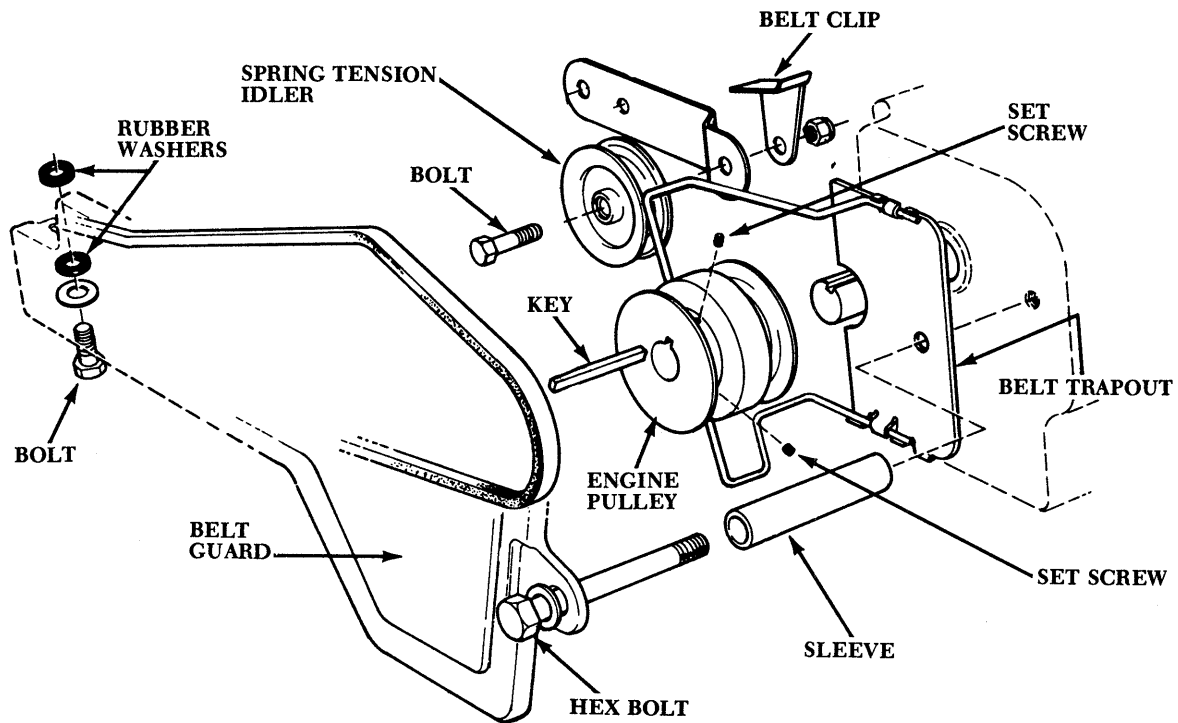

FIG. 1
4. Remove hex bolt and sleeve holding the front of the belt guard to the engine. **Do not** remove the belt trapout. Remove bolt and rubber washers holding the rear of the belt guard to the frame. Depress the Clutch-Brake Pedal and lock in the brake position (fully depressed pedal) with the parking brake. Loosen the bolt holding the spring tension idler and belt clip. Mark position of belt clip. Roll belt off pulley **TOWARDS** the engine. Remove set screws (2) and pull off engine pulley. Refer to Fig. 1. Replace bolt and two rubber washers in the frame.